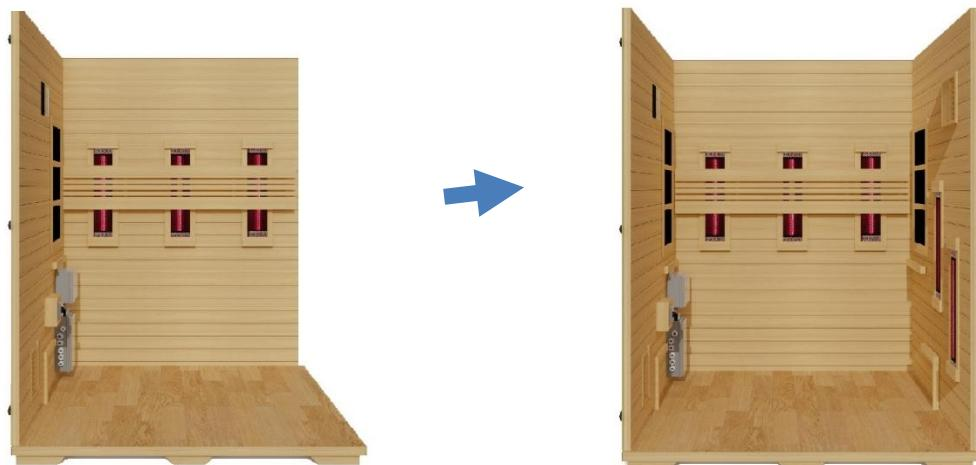

Figure 3
1. Place the RIGHT SIDE WALL PANEL up and onto the FLOOR PANEL and next to the REAR WALL PANEL. Use the buckles to latch the two wall panels together. (see Figure 3)